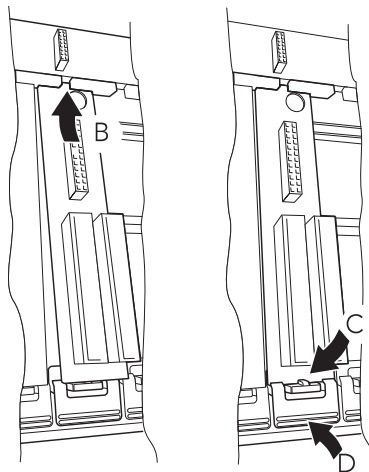

Figure 4: Terminal unit installation/removal
1. Insert the tag at the top of the terminal unit printed circuit board into the relevant slot in backplane (action 'B' in Figure 4).
2. Press on the bottom of the terminal unit until a 'click' confirms that the retention clip has sprung back into position to secure the terminal unit (action 'C' in Figure 4).
3. Press the retention clip at the bottom of the terminal unit and lift the terminal unit out (action 'D' in Figure 4).